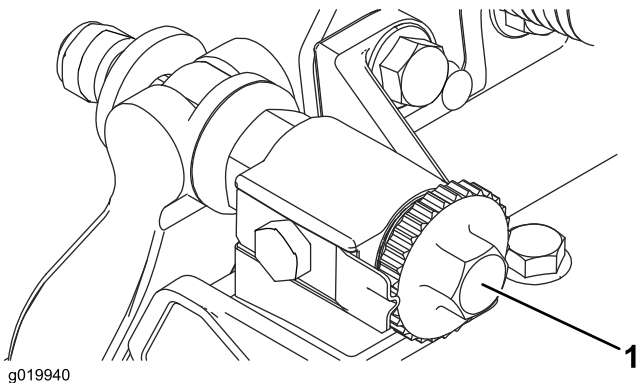

Figure 16
1. Position the cutting unit on a flat, level work surface. Turn the bedbar adjusting screws counterclockwise to ensure that the bedbar does not contact the reel (Figure 16).